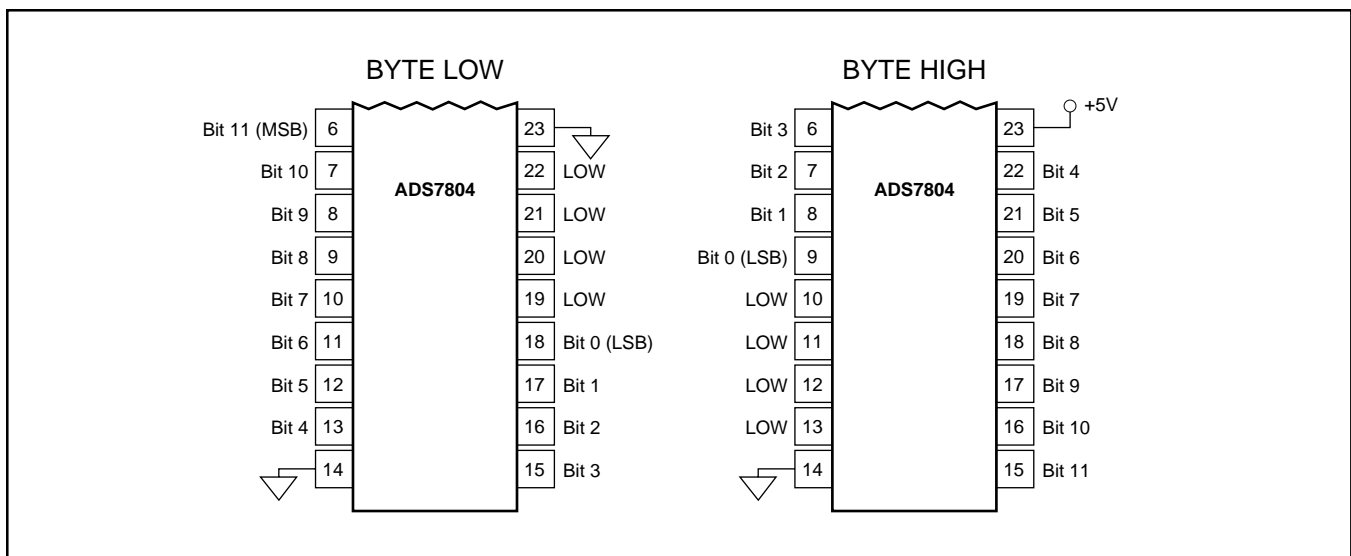

FIGURE 2. Bit Locations Relative to State of BYTE (pin 23).
NOTE: (1) See Figures 2 and 3 for constraints on data valid from conversion "n-1".
The ADS7804 outputs full or byte-reading parallel data in Binary Two's Complement data output format. The parallel output will be active when  $\overline{R/C}$  (pin 24) is HIGH and  $\overline{CS}$  (pin 25) is LOW. Any other combination of  $\overline{CS}$  and  $\overline{R/C}$  will tri-state the parallel output. Valid conversion data can be read in a full parallel, 12-bit word or two 8-bit bytes on pins 6-13 and pins 15-22. BYTE (pin 23) can be toggled to read both bytes within one conversion cycle. Refer to Table III for ideal output codes and Figure 2 for bit locations relative to the state of BYTE.